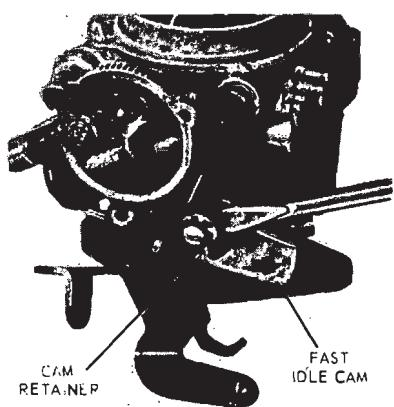

FIG. 9—Fast Idle Cam Retainer Removal
4. Remove the fast idle cam retainer (Fig. 9) and the plastic collar, then remove the cam and disengage the fast idle connector rod from the cam and fork lever on the choke plate shaft.